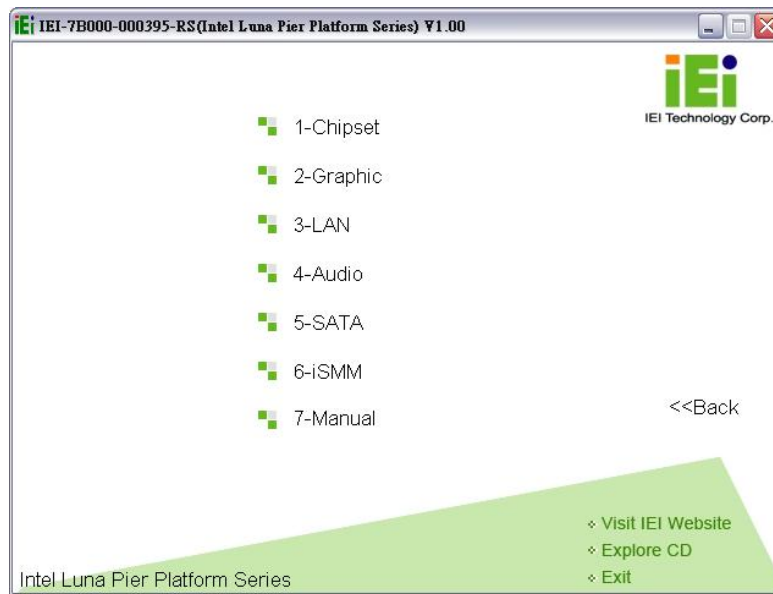

Figure 4-15: Available Drivers
Step 4: A new screen with a list of available drivers appears (Figure 4-15).